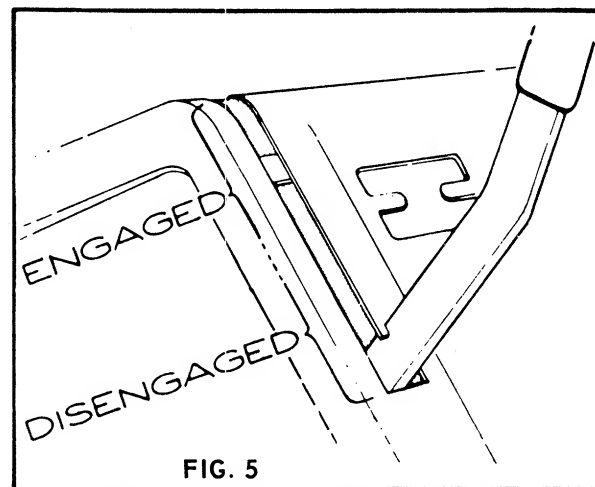

FIG. 5
The lift and disengagement lever is used to raise and lower the mowing deck (See Fig. 5). When the lever is in the DISENGAGE position the blades WILL NOT revolve. When it is necessary to drive the mower over a small obstruction such as a clump of dirt or a root, place the lift and disengagement lever in DISENGAGE position. This will raise the deck and the blades will stop revolving automatically.
**STOPPING BLADES FROM REVOLVING** - With your right hand move the lift lever to DISENGAGE position (See Fig. 5). It can be held in this position by depressing it all the way down and moving it to the left. This operation will stop the blades from rotating as well as raise the mowing deck. The lift lever should be in this position when traveling to and from the work area.